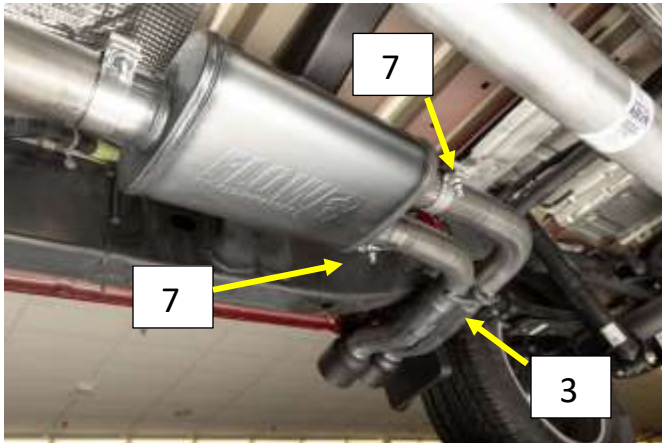

Figure 3
8. Install a supplied 2.5" band clamps **(7)** on to the muffler outlet with the bolt at the top and the nut facing the ground. **Fig. 3**